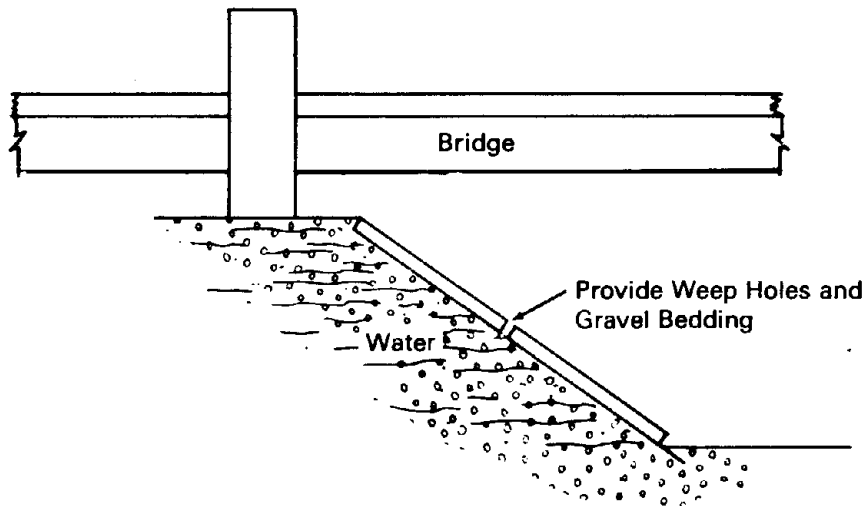

Figure 16. Rigid slope paving.
- b. Do not use rigid slope paving where water may get behind it (figure 16).